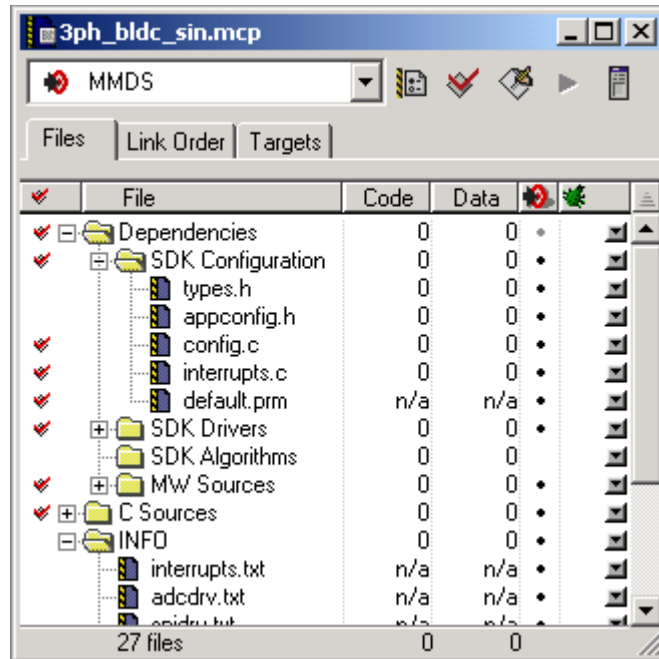

Figure 4. New Project Created from the 68HC08 SDK Stationery
2. Select the required device and required template. This creates a new project (see **Figure 4**) including:
1. Copy the configuration items from the *driver “name.txt”* e.g. “pwmdrv.txt” to the “appconfig.h” file. The files can be found in the project window (see Figure 4).